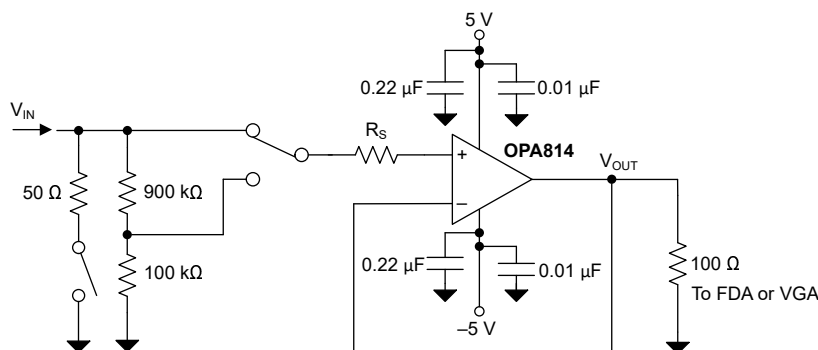
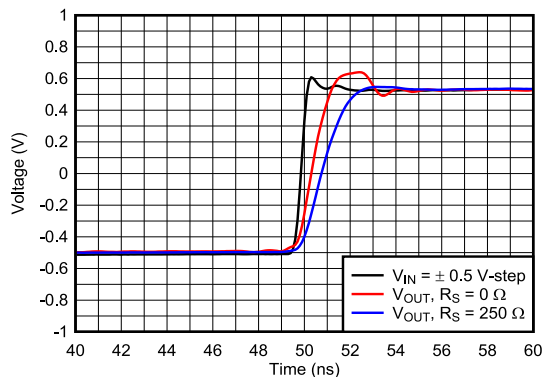
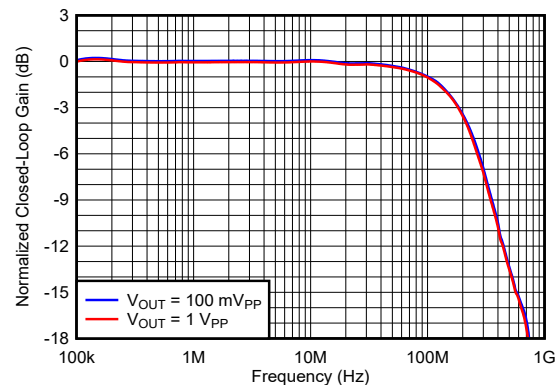

Figure 8-4. High-Input-Impedance, 180-MHz, Digitizer Front-End Amplifier
Figure 8-5. Step Response of Digitizer Front-End
Figure 8-6. Frequency Response for $R_S = 250 \Omega$
- Optimizing Overshoot:** The OPA814 features an internal slew-boost circuit to deliver fast rise-time in applications that require high slew rates, such as when configured as a transimpedance amplifier. For applications where overshoot must be limited, limit the input slew rates by introducing a series resistance (R_S); see also Figure 8-4. Resistor R_S forms a low-pass filter with an input capacitance of approximately 2.5 pF at the noninverting pin of the OPA814, thus limiting the input slew rate to the amplifier. Figure 8-5 shows how limiting the input slew rate to the amplifier results in good overshoot performance. Figure 8-6 shows how this configuration achieves a small-signal and large-signal bandwidth of 180 MHz.